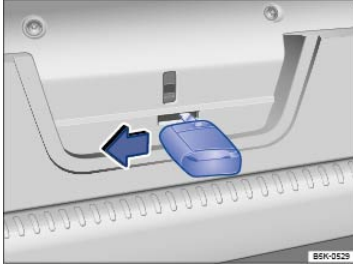

Fig. 65 Inside the luggage compartment, behind the cover: Opening the trunk lid.
- Insert the key bit into the slot in the trunk lid trim and press the release lever in the direction of the arrow ⇒ Fig. 65 to unlock the trunk lid. At the same time, push the trunk lid out until it opens.